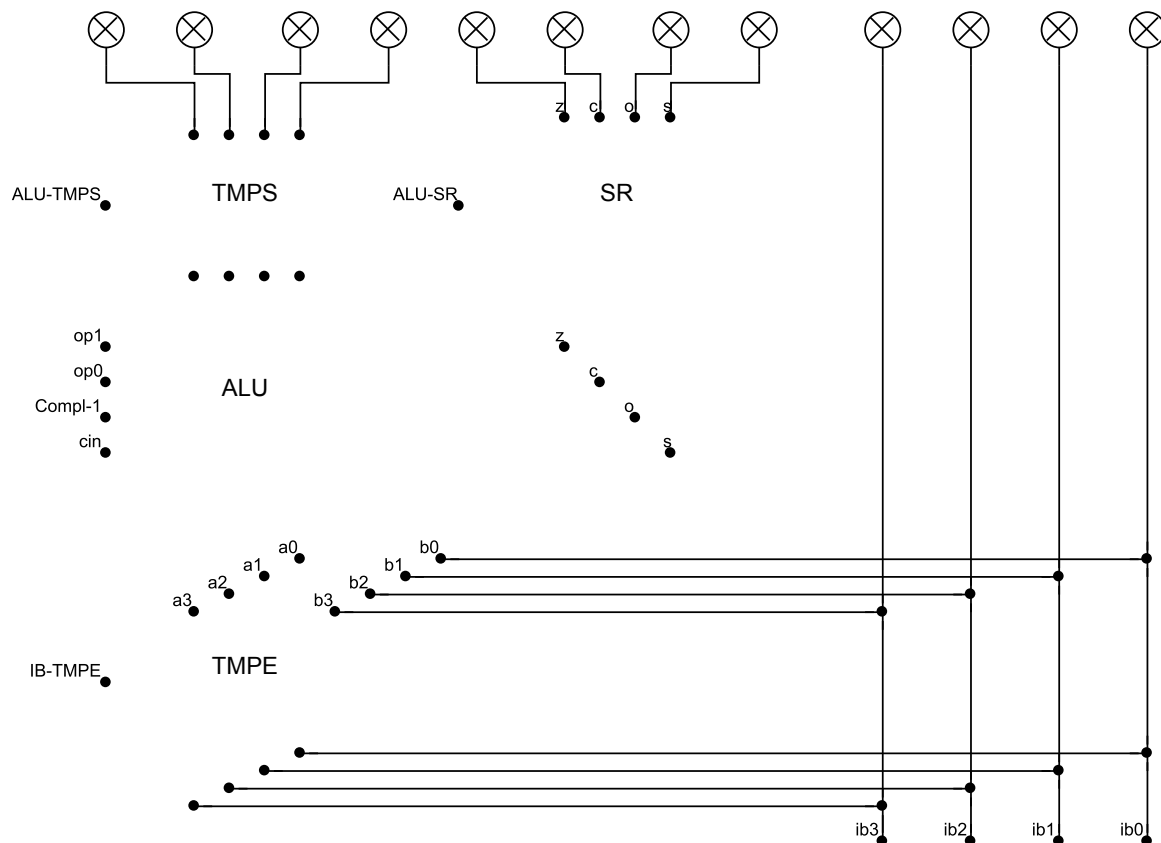

Figure 3.3: CPU circuit
- ☐ Load the project `cpu`. The workspace of SECD will show the circuit of figure 3.3. ALU, TMPE, TMPS, and SR stand for the places where the macros `alu4` and `reg4` will be connected. Furthermore, four sets of lamps were located in interesting locations of the circuit: